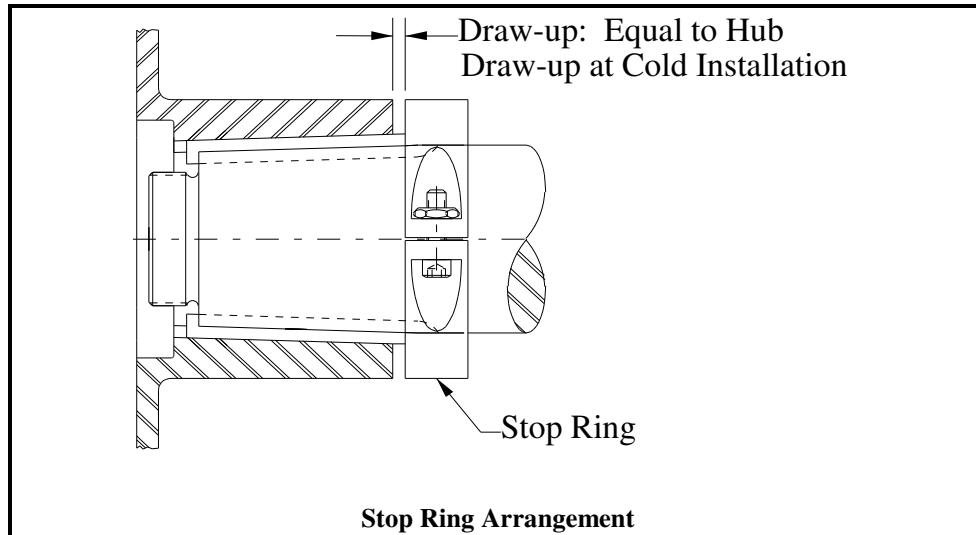

Figure 4-3
4.2.2.6 Install the hub, hand tight, onto the shaft. Using feeler gages, install a positive stop onto the shaft corresponding to the draw-up specified on the Ameridrives Sales Drawing (see Figure 4-3).